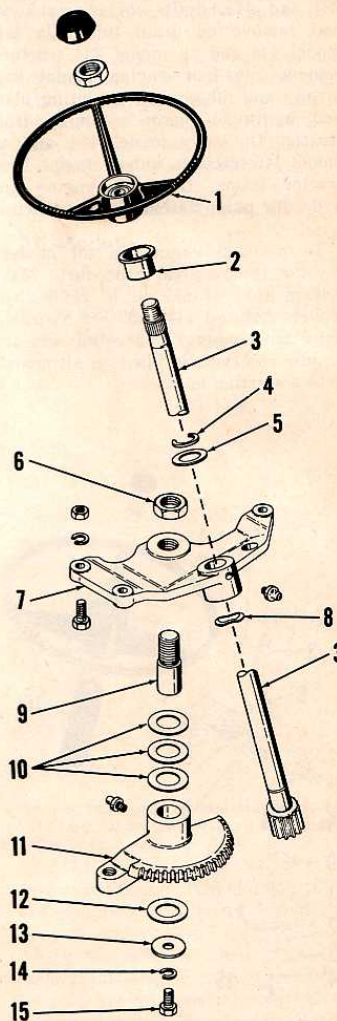
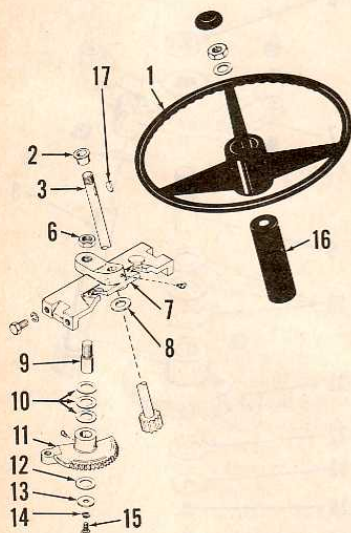

Fig. C3—Exploded view of steering gear assembly used on early model 444 tractors.
Fig. C4—Exploded view of steering gear assembly used on late model 444 and all model 224 and 446 tractors.
R&R AND OVERHAUL. Refer to Fig. C3 or C4 and remove steering wheel retaining nut and steering wheel (1). On late 444 and all 224 and 446 tractors, remove key (17—Fig. C4) and tube (16). On all models, raise front of tractor using a suitable jack or hoist and disconnect drag link from quadrant gear (11—Fig. C3 or C4). Remove
capscrew (15), lock washer (14), washer (13), quadrant gear (11) and shims (10 and 12). Shims (10 and 12) should be kept in the order they are removed to aid in reassembly. On early model 444, unseat retaining ring (5—Fig. C3) from its groove, then on all models withdraw steering shaft and pinion (3—Fig. C3 or C4) from steering support (7) and from underside of tractor. Remove nylon bushing (2) from steering column. Unbolt and remove steering support (7). Remove locknut (6), then unscrew stub shaft (9) from support.
Clean and inspect all parts and renew any showing excessive wear or other damage. To reassemble, reverse disassembly procedure. On early model 444, steering shaft (3—Fig. C3) end play is controlled by washers (5 and 8) and retaining ring (4). On late model 444 and all 224 and 446 tractors, tighten steering wheel retaining nut to remove excessive end play of steering shaft (3). Shims (10—Fig. C3 or C4) are used to adjust gear backlash between quadrant gear (11) and steering shaft pinion. Adjust gear backlash by repositioning shims (10) from upper to lower side of quadrant gear (11) to decrease backlash or from lower to upper side of quadrant gear to increase backlash. Backlash should be minimal